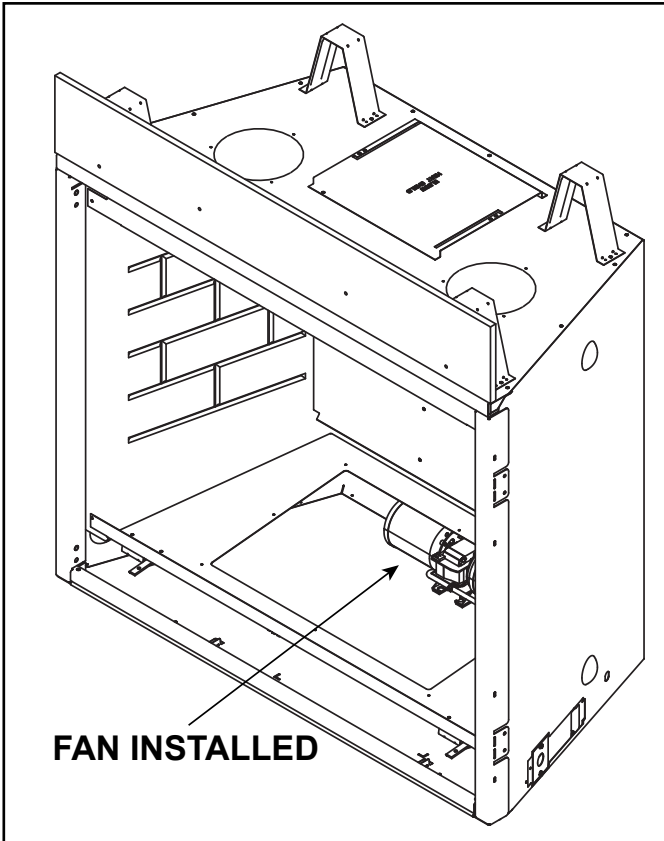

Figure 8.2 Fan Installed in Valve Plate Cavity
- Service can be performed through the valve plate cavity. See Figure 8.2.